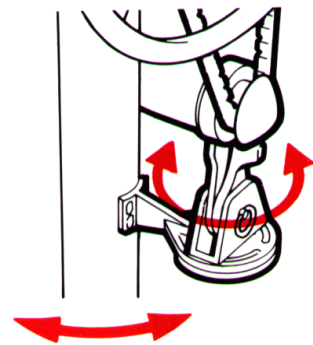

Fig.12
- Push the bracket downwards against the pedestal until the belt is just taut by sliding the pedestal bracket around the pedestal and rotating the clevis bracket ensure that the belt lies parallel to the wheel (Fig.12).